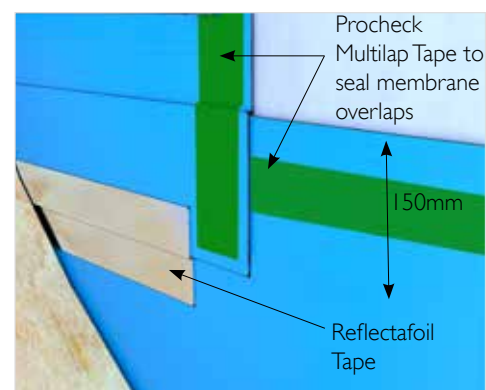

Fig.4: Profoil detail: Overlaps sealed with Procheck Multilap Tape and Reflectafoil Tape over the edges
7. Seal all overlaps and perimeter edges with a single run of Reflectafoil Tape. (Fig.4).